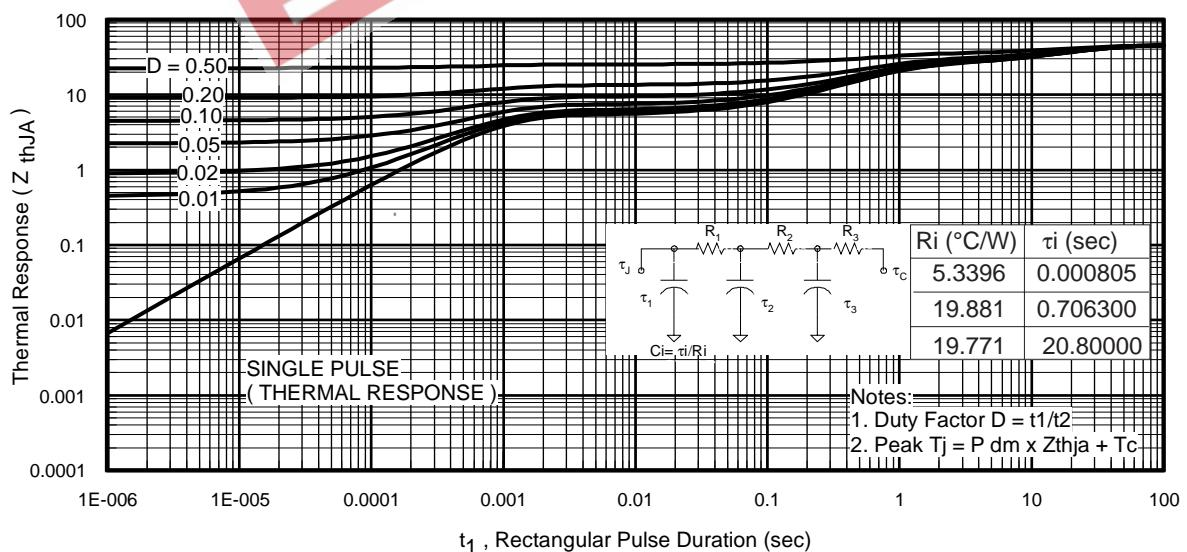
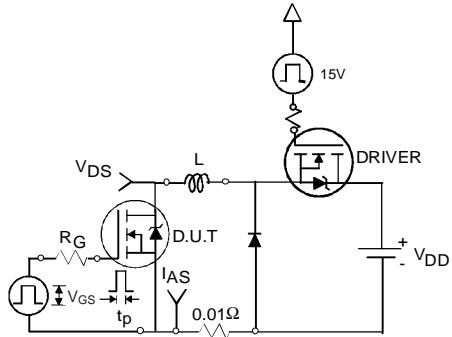

Fig 11. Maximum Effective Transient Thermal Impedance, Junction-to-Ambient
Fig 12a. Unclamped Inductive Test Circuit
- ① Repetitive rating; pulse width limited by max. junction temperature. (See fig. 11).
- ② Limited by $T_{J\max}$, starting $T_J = 25^\circ\text{C}$, $L = 4.8\text{mH}$ $R_G = 25\Omega$, $I_{AS} = 3.0\text{A}$, $V_{GS} = 10V$. Part not recommended for use above this value.
- ③ Pulse width $\leq 1.0\text{ms}$; duty cycle $\leq 2\%$.
- ④ $C_{oss \text{ eff.}}$ is a fixed capacitance that gives the same charging time as C_{oss} while V_{DS} is rising from 0 to 80% V_{DSS} .
- ⑤ Limited by $T_{J\max}$, see Fig.12a, 12b, 15, 16 for typical repetitive avalanche performance.
- ⑥ This value determined from sample failure population. 100% tested to this value in production.
- ⑦ When mounted on 1 inch square copper board.
- ⑧ When mounted on FR-4 board using minimum recommended footprint.
3. Equation below based on circuit and waveforms shown in Figures 12a, 12b.
- $Z_{thJC}(D, t_{av})$ = Transient thermal resistance, see figure 11